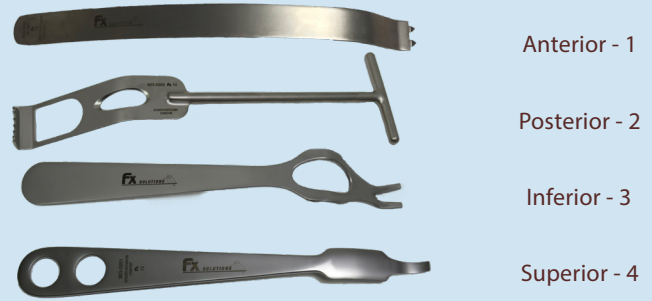

Figure 10
STEP 8: GLENOID EXPOSURE (Figure 10)